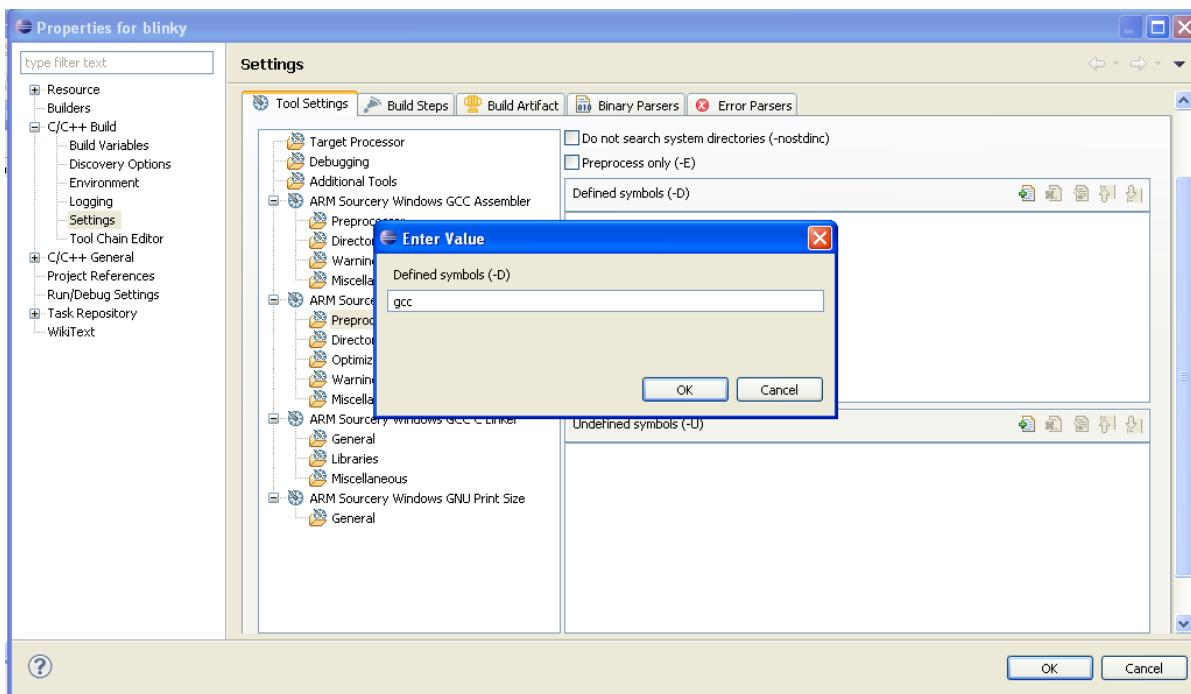

Figure 11.12 Preprocessors
- In the Project Properties window, go to Tool Setting -> ARM Sourcery Windows GCC C Compiler -> Preprocessors and define the symbol “gcc” as shown in Figure 11.12.